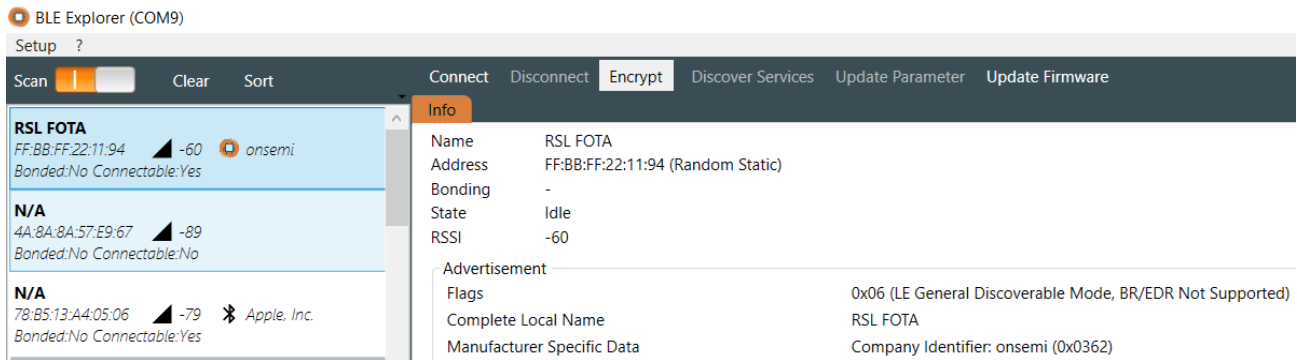

Figure 9. FOTA Running
- Connect FOTA_GPIO (GPIO1) to ground. After a few seconds, you can see the name **RSL FOTA** on the RSL BLE Explorer, as shown in the figure "FOTA Running" \(Figure 9\). After checking the name **RSL FOTA**, disconnect FOTA_GPIO from ground.